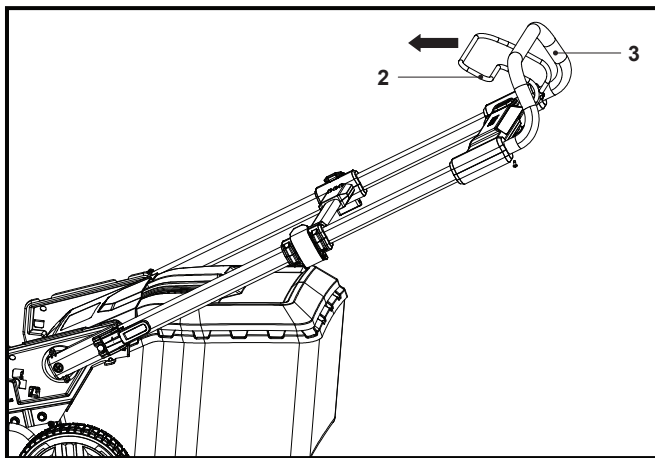

Fig. 19
1. Release the start lever (2) to stop the lawn mower (Fig. 19).